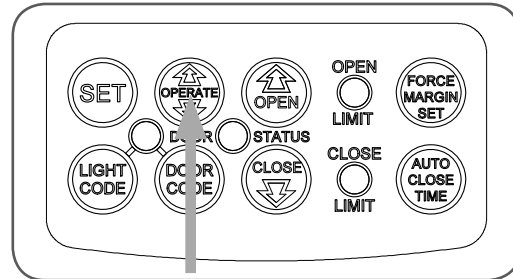

fig 15
- Press the OPERATE button to open the door (**Fig. 15**).
- Press the OPERATE button to close the door (**Fig. 15**).